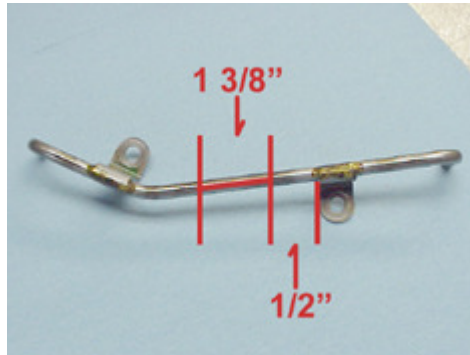

Figure 7: Tube modification
10) You will need to modify the original stainless steel tube that was earlier removed from the valve body. Measure the stainless steel tube 1/2-inch from the bracket and cut using a tubing cutter (Figure 7).